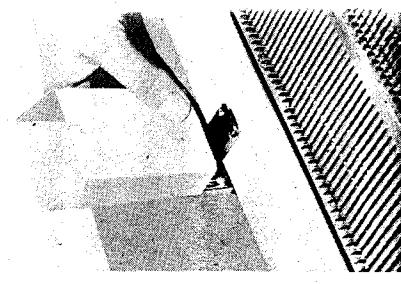

Fig. 3
3. Take out the accessory stand from the accessory box. Set it up on any one of the 3 row counter brackets which is free. (See Fig. 3,4)